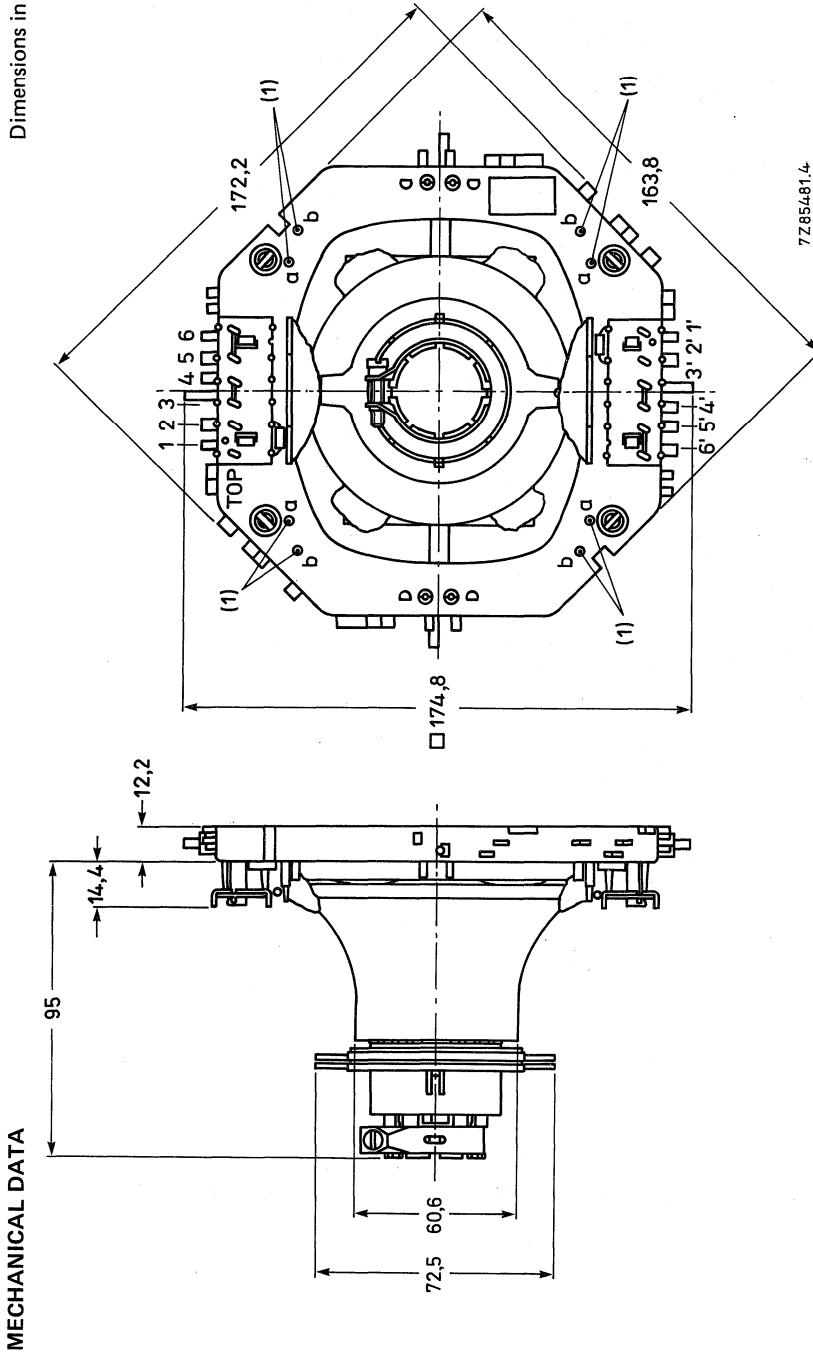
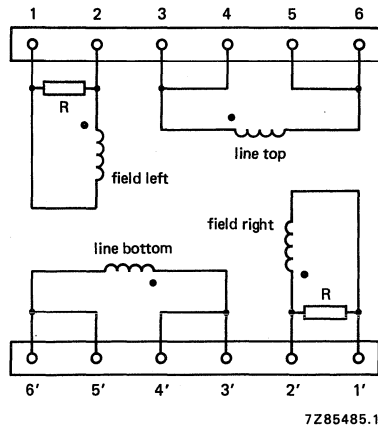

Fig. 1 Deflection unit AT 1039/05.
Fig. 2 Diagram of line and field coils; R = 270 Ω . The beginning of the windings is indicated with ●.
If a further improvement of raster geometry is required use can be made of correction magnets*, which must be fitted to mounting posts (1). The unit has solder pins for connection. The pin numbering in Fig. 1 corresponds to that in Fig. 2.